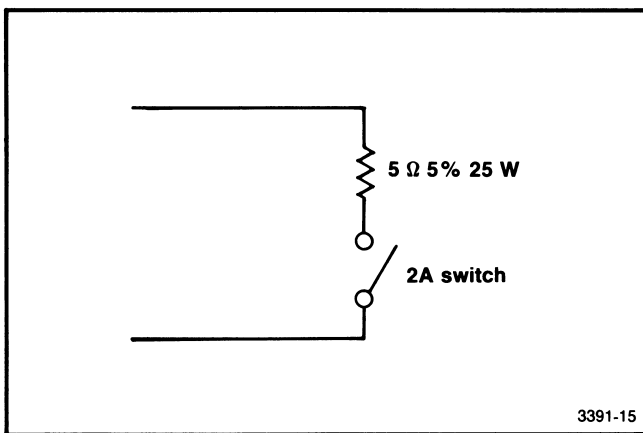

Fig. 5-2. Test fixture for load transient recovery.
- b. Connect the test fixture shown in Fig. 5-2 to the front panel common and POSITIVE output connectors.